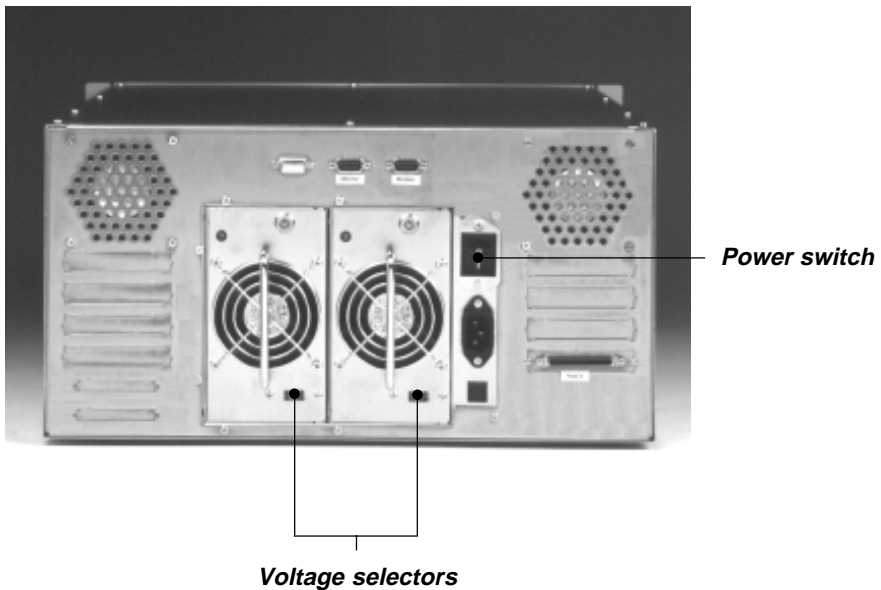

Figure 3-1: Power supply voltage selectors
3. The power supplies installed in your subsystem are able to operate using 115 V or 230 V. Configure each voltage selector for the type of power you are using. (See Figure 3-1.) Failure to do so may cause severe damage to your subsystem.